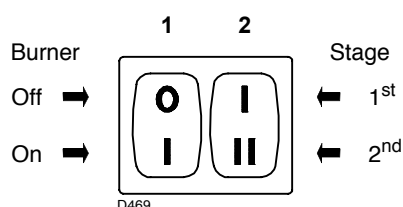

Fig. 24
- Start the burner by closing the control devices and with switch 1)(Fig. 24 on page 25) in the "ON" position. The pump must rotate in the direction of the arrow marked on the cover.
- The pump can be considered to be primed when the fuel starts coming out of the screw 3). Stop the burner: switch 1)(Fig. 24 on page 25) set to "OFF" and tighten the screw 3).
Set switch 1)(Fig. 24) to "ON".
Keep the burner operating at 1st stage by setting the switch 2) (Fig. 24 on page 25) to the 1st stage position. Opening of the air gate valve 6) (B, Fig. 25) must be adjusted in proportion to the selected nozzle: the index 1) (A, Fig. 25) must be aligned with the notch 2) (A, Fig. 25) specified in (Tab. K). This adjustment is achieved by turning the hex element 2) (B, Fig. 25):
Set switch 2) (Fig. 24 on page 25) to the 2nd stage position and adjust the air gate valve 6) (B, Fig. 25) by turning the hex element 4) (B, Fig. 25), after having loosened the ring nut 3) (B, Fig. 25).